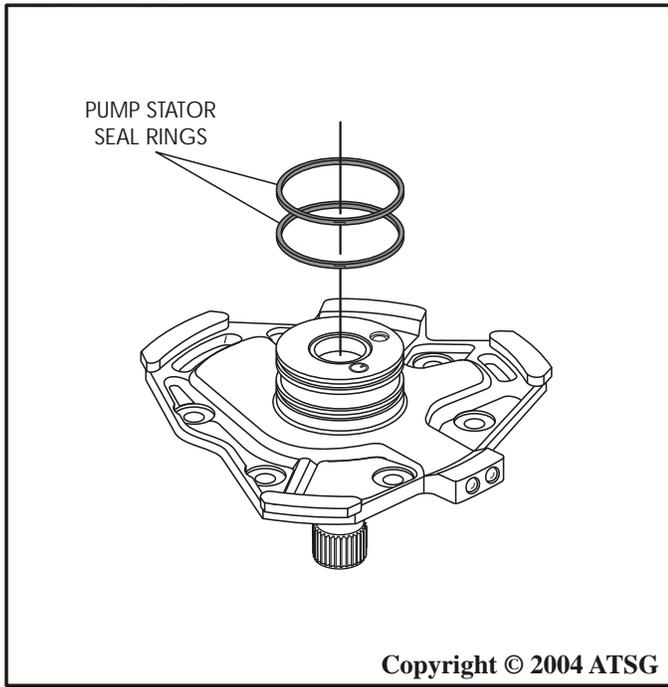

Figure 60
16. Install two new sealing rings into the stator grooves, as shown in Figure 60.